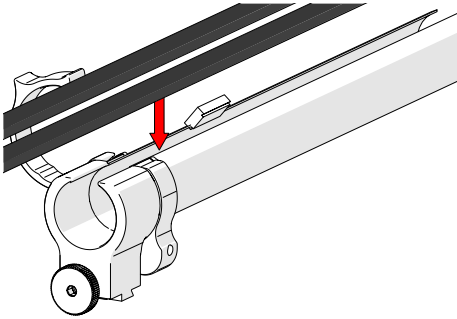

Fig. 103 - Insert cables and hoses
1. Open the zipper of the cable management. Begin at the tube's dovetail mount and place the cabling in the tube (*Fig. 103*).